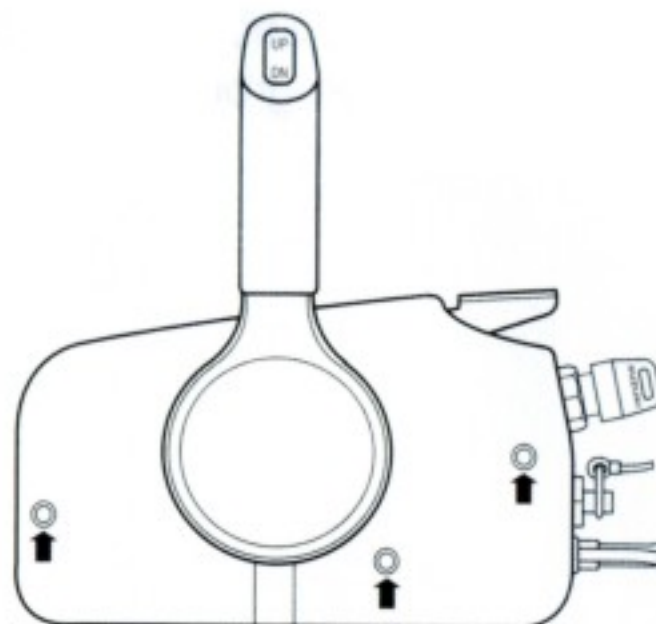

Fig. 17
- 1) Mark three positions of remote control box mounting screw (■ in Fig. 17) on the hull with a 6-mm drill passed through the screw holes.